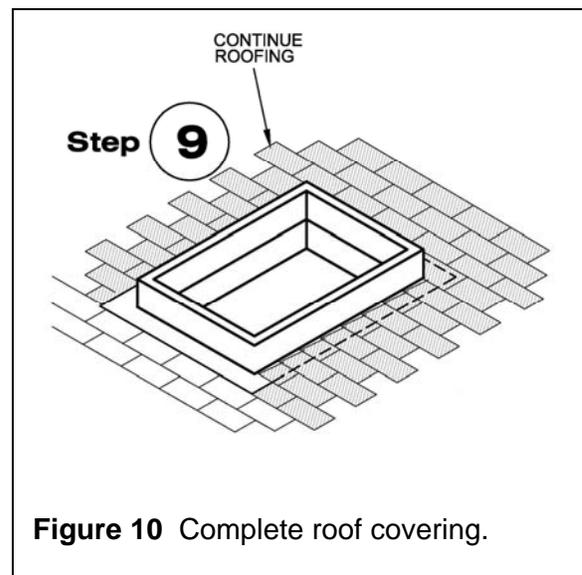

Figure 10 Complete roof covering.
Step 9. Install sheet metal sill apron flashing at bottom of skylight curb. Insert top ends of sheet metal flashing under roof underlayment. Cut and modify roof underlayment as required to lap over top edges of sheet metal flashing (see Figure 10).